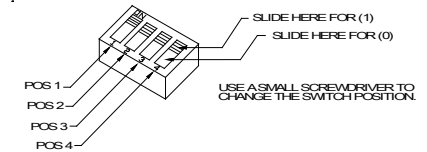

Figure 3: Switch (SW1) Settings
STEP 2: Set desired alarm tone as follows (refer to Figure 3 and Table 6).
MT Multitone Appliances are field set for any one of eight alarm tones by setting a four-position switch (SW1) as shown in Figure 3 and Table 6. Use SW1 POS 2, 3, 4 to select the desired alarm tone (refer to Table 6 below.)